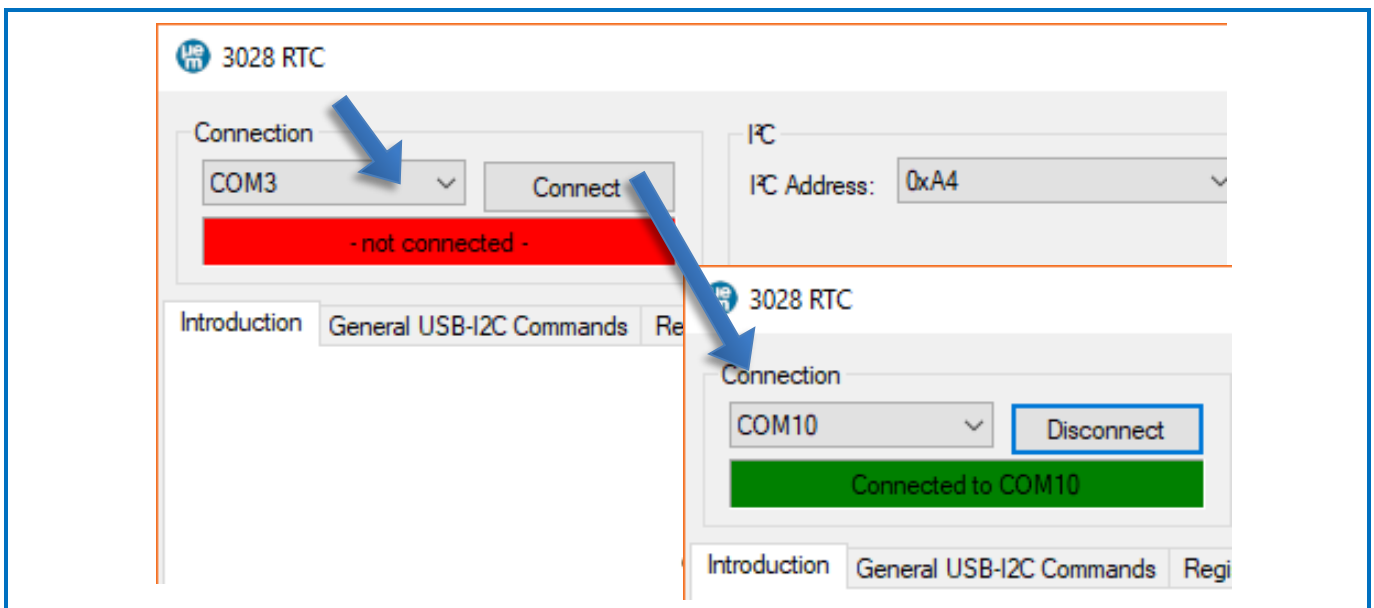

Figure 4-1 Start Window of the GUI
- The start window will pop op (Figure 4-1)